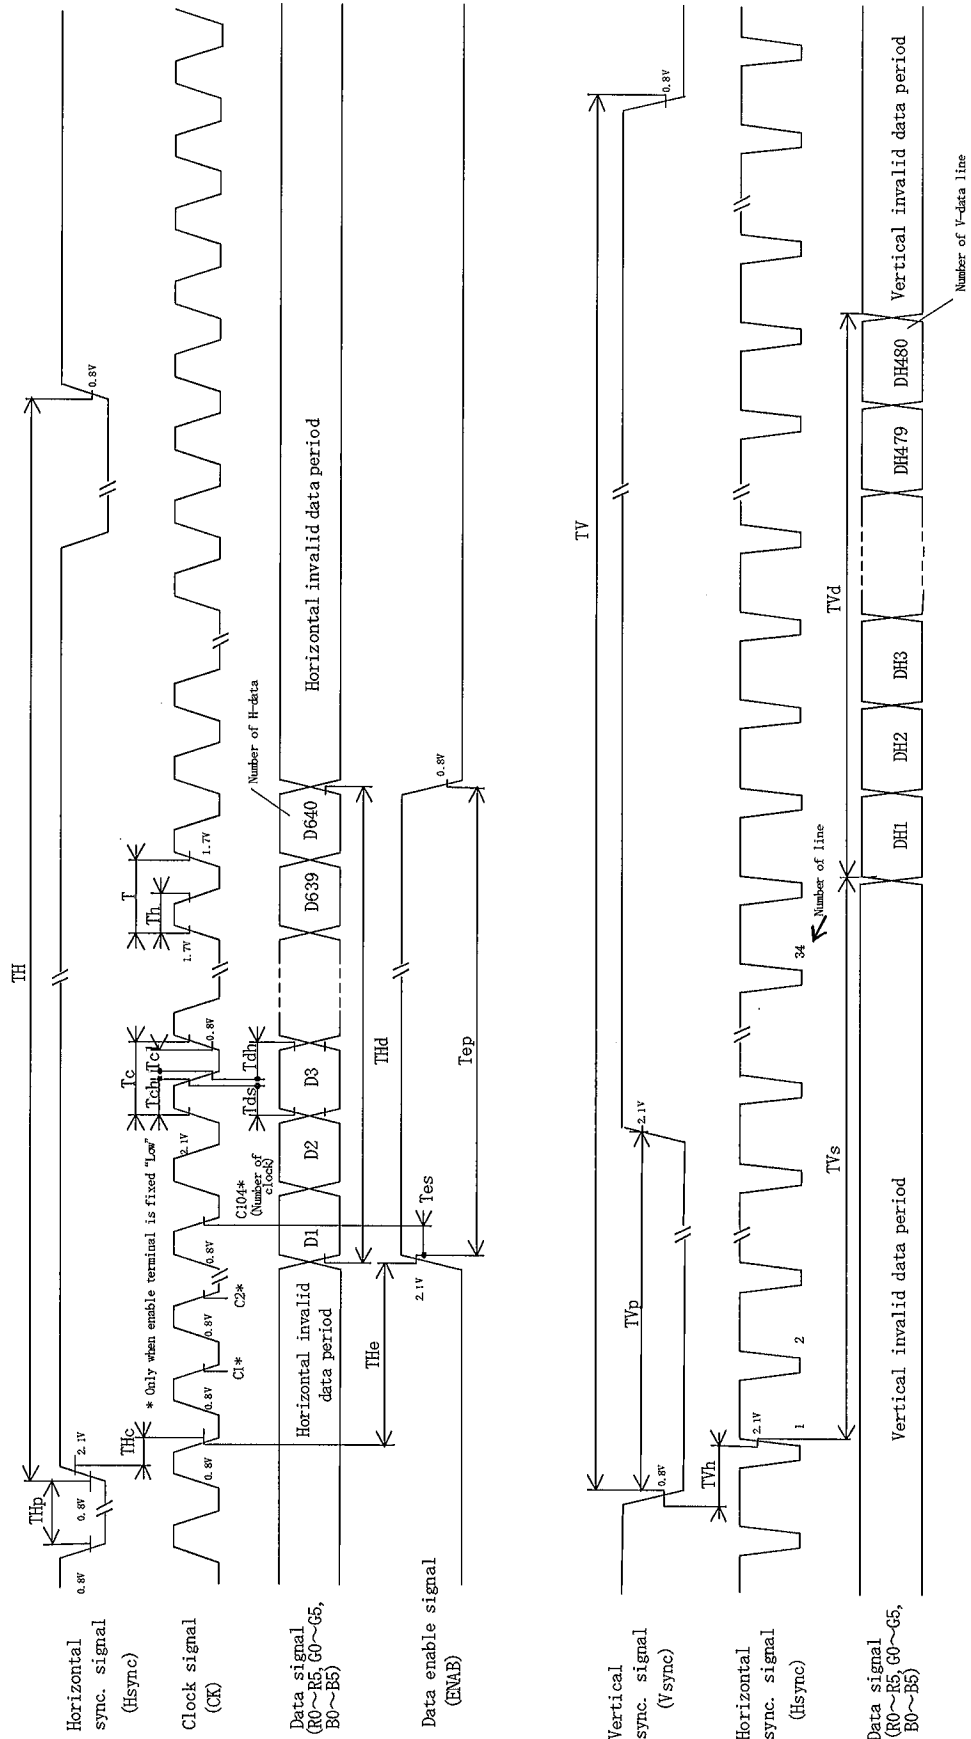

Fig 2-① Input signal waveforms (480 line mode)
Timing diagrams of input signal are shown in Fig.2.
[Note] When ENAB is fixed "Low", the display starts from the data of C104(clock) as shown in Fig.2-①~③.